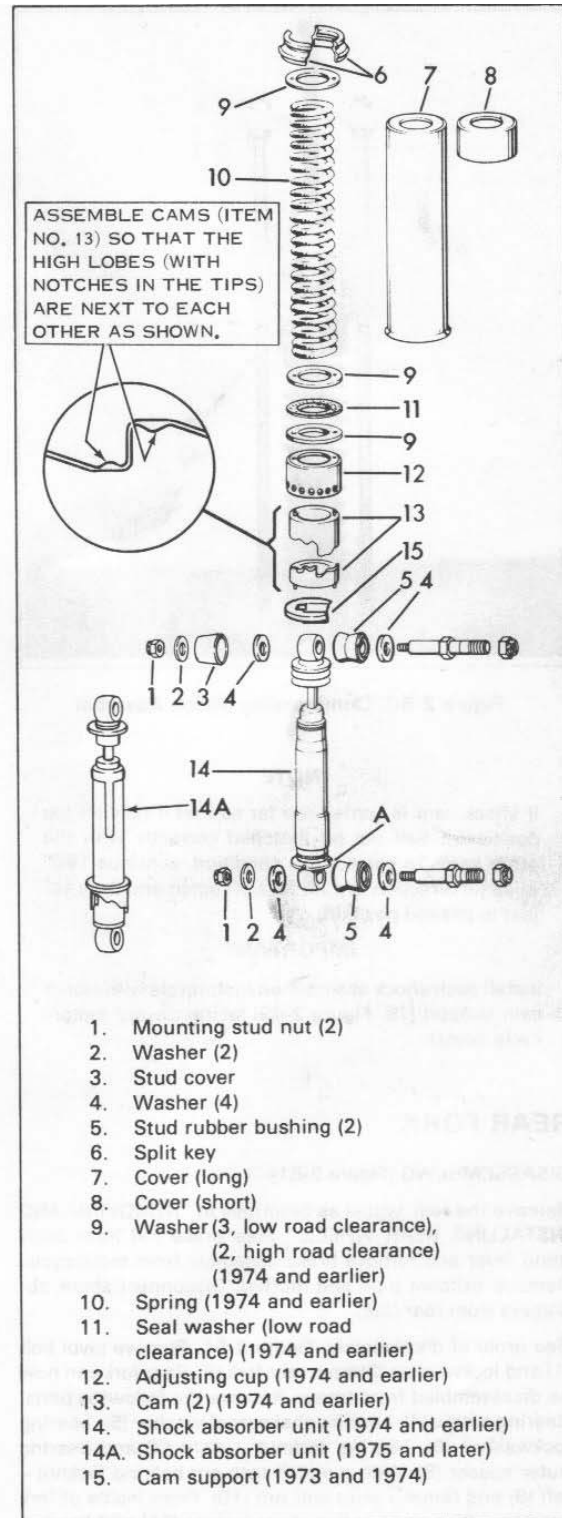
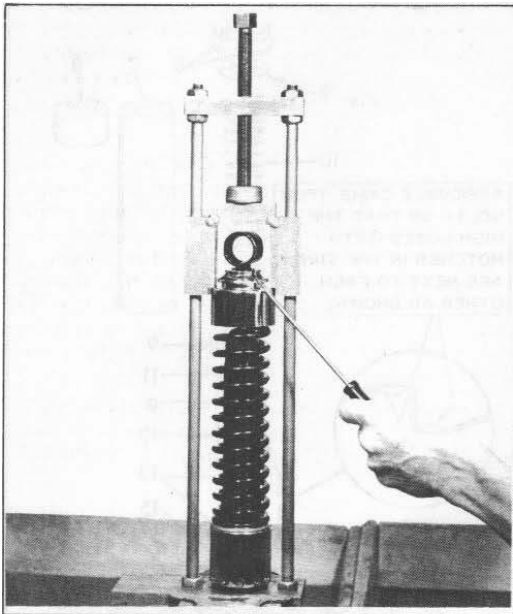

Figure 2-49. Rear Shock Absorber - Exploded View
Figure 2-50. Compressing Shock Absorber
(Figure 2-49): Remove top and bottom mounting stud nut (1), washer (2), stud cover (3), and washer (4). Slip shock absorber assembly off upper and lower studs. Push rubber bushings (5) from shock absorber mounting eyes. Place shock absorber in Rear Shock Absorber Tool, Part No. 97010-52A (see Figure 2-50) with split key (6) up. Compress absorber spring enough to remove each half of split key (6) from flange on shock eye. Release spring compression and remove absorber assembly from tool. Remaining items can be removed in order shown in Figure 2-49.
(Figure 2-49): Apply a thin coat of grease to all surfaces of both cams. Note that cams (13) are identical and be sure to position cam lobes correctly as shown in Figure 2-49 inset. Place assembly in compressor tool and compress spring enough to install key halves (6).
Install each shock absorber on motorcycle with slot in cam support (15, Figure 2-49) facing toward motorcycle wheel.